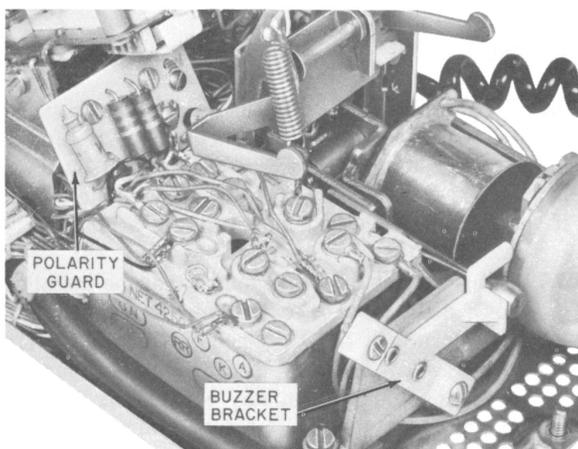

Fig. 3—2565-Type Telephone Set, Interior View
3.07 Polarity guard protection for the 35C3A dial can be provided by the installation of a P-90D052 guard assembly. Polarity guards should be installed only when authorized by local instructions to prevent battery and ground reversals encountered in end-to-end signaling. For ease of installation, make necessary connections to the terminals of the polarity guard before mounting. Install guard in set by loosening or removing right-hand dial mounting screw to facilitate placing polarity guard bracket as shown in Fig. 3. Retighten dial mounting screw.
3.08 A bracket and mounting screws are provided in the 2565-type sets for mounting a KS-8109L2 (AC or DC) buzzer (Fig. 3). Buzzer can be used in place of ringer or as an auxiliary audible signal if spare mounting cord conductors are available.